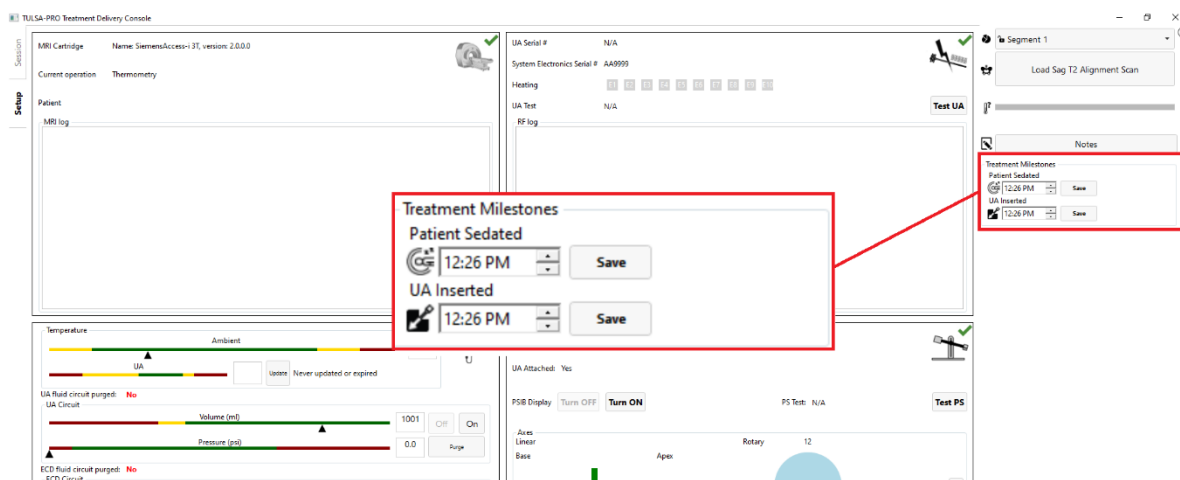

Figure 32: Entering Treatment Milestones in the TDC Setup Workspace
1. In the TDC *Setup* Workspace, enter the sedation and UA insertion times under **Treatment Milestones** (Figure 32).